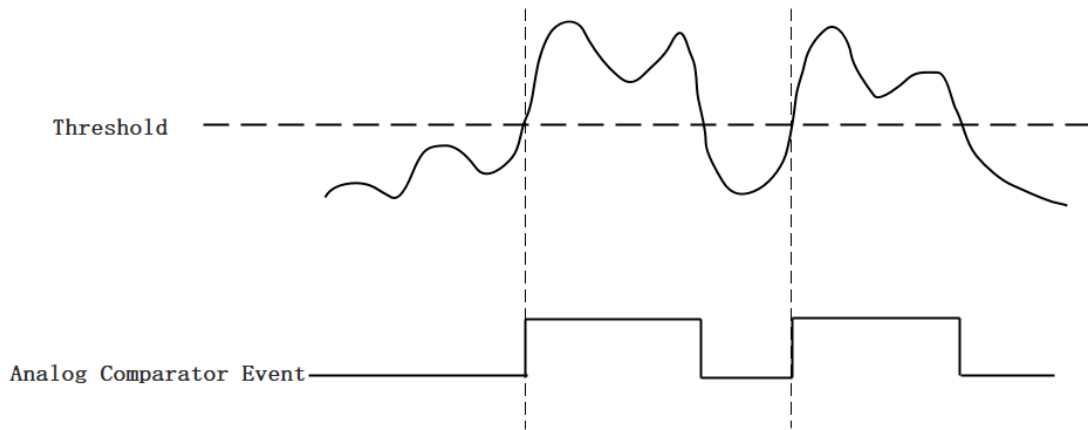

Figure 17 Rising Slope Trigger
*Rising Slope Trigger*: The Edge comparator output is high when the signal goes above the threshold; the output is low when the signal goes below the threshold as shown in Figure 17.